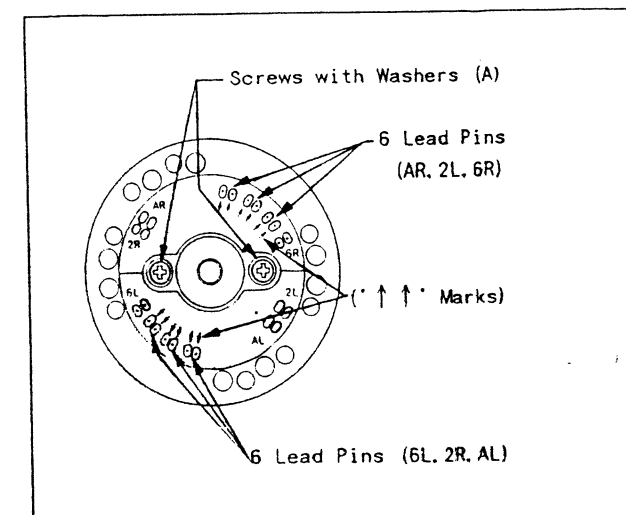

Fig. M2
1. Unsolder only the Lead Pins which are indicated by '↑↑↑' marks as shown in Fig. M2.
2. Remove 2 Screws with Washers (A) and gently lift the Upper Cylinder Unit from the shaft.
2. Tighten 2 Screws with Washers (A) shown in Fig. M2 and resolder the Lead Pins to the Head Relay Board.